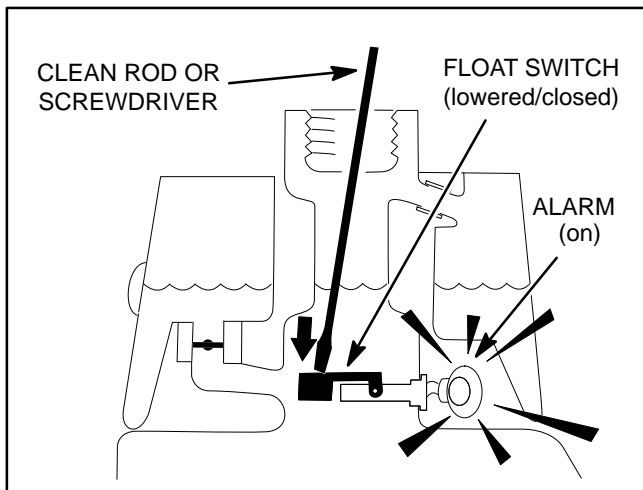

Figure 60
1. If the oil level sensor is connected to the main wire harness, remove hydraulic tank cap from filler neck of hydraulic reservoir. Start the engine. Insert a clean rod or screw driver into filler neck and gently push down on sensor float (Fig. 60). Alarm should sound and console leak detector indicator light should illuminate after a one (1) second time delay.